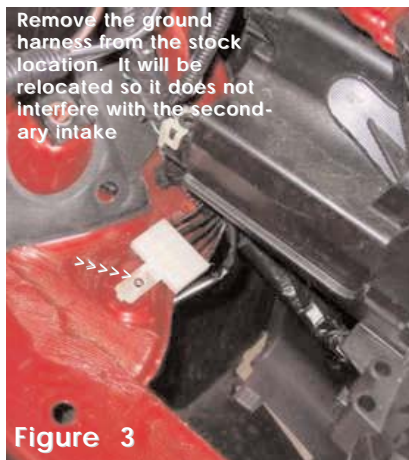
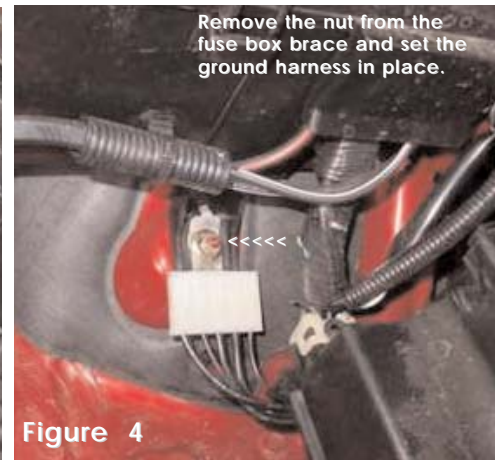

Figure 3
Figure 4
- 3- Remove the ground harness from the stock location in order to make clearance for the secondary intake. (See fig. 3) Remove the m6 nut from the base of the fuse box brace and set the ground harness over the stud, use the same m6 nut to secure the ground harness in place. (See fig. 4)